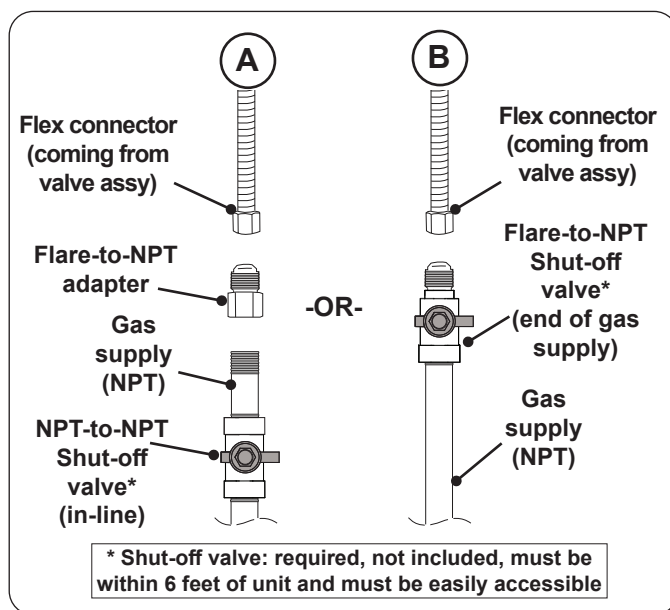

Fig. 35-1 Connecting to a gas line
- Install the supplied flare-to-NPT adapter to the gas supply (NPT) using a pipe joint compound resistant to all gasses (see Fig. 35-1, A). Tighten securely.
- Connect the flex connector to the adapter (see Fig. 35-1, A). Tighten securely.
- Connect the flex connector to the shut-off valve (flare)(see Fig. 35-1, B). Tighten securely.